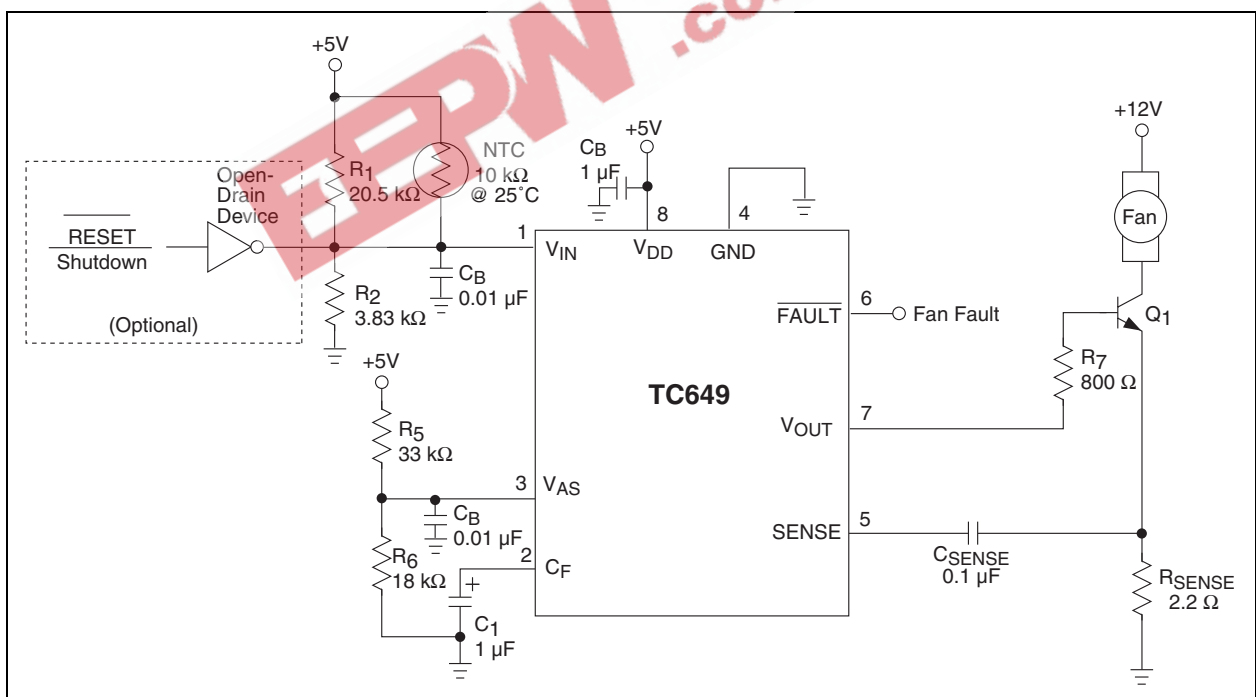

FIGURE 5-9: Design Example.
**Step 1.** Calculate  $R_1$  and  $R_2$  based on using an NTC having a resistance of 10 k $\Omega$  at  $T_{MIN}$  (25°C) and 4.65 k $\Omega$  at  $T_{MAX}$  (45°C) (see Figure 5-9).